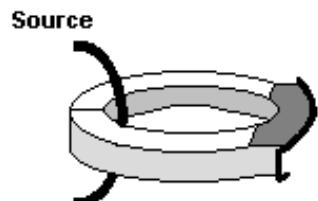

Figure 1a
- 2.a Move the jaw to the top of the clamp {see figure 1a} and note reading